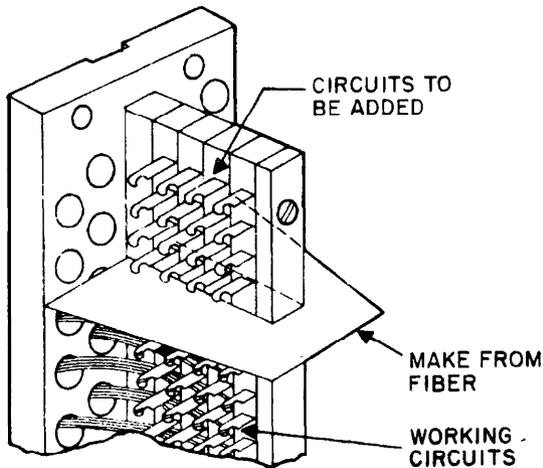

Figure 1. Protecting Working Circuits with Sheet Fiber.
3.02 Before soldering, protect equipment beneath and adjacent to work location from falling solder and wire ends with connecting bag and installer's mat and, where necessary, a piece of sheet fiber. When making additions to existing terminal blocks already carrying working circuits, use sheet fiber as illustrated in Figure 1.